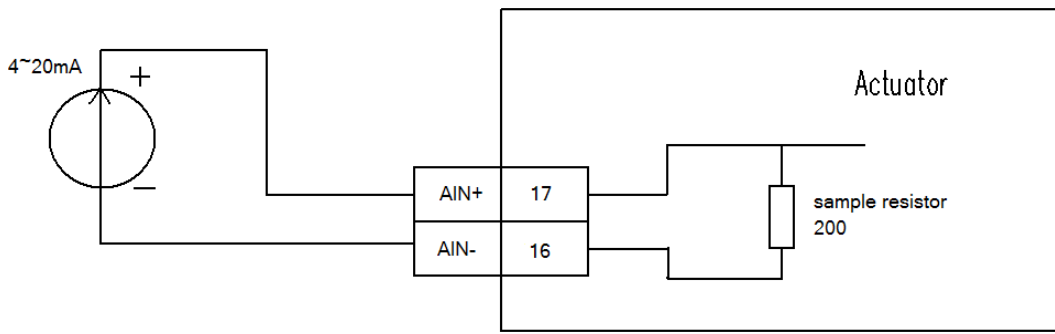

FIG.4-9
**4.3 Modulating control (optional)(FIG. 4-9)**